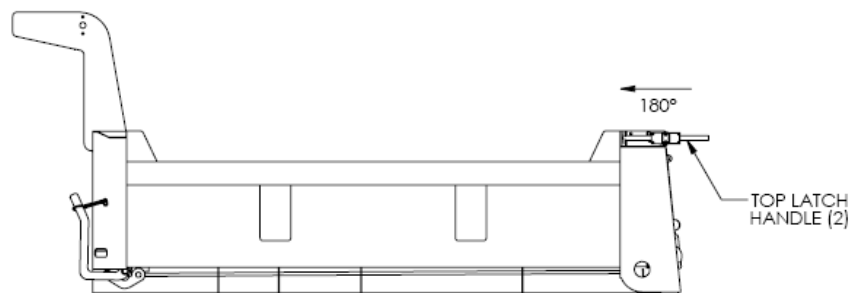

FIGURE 10
- b. Rotate the top latch handle forward until the handle points straight towards the front of the body as shown in Figure 10.